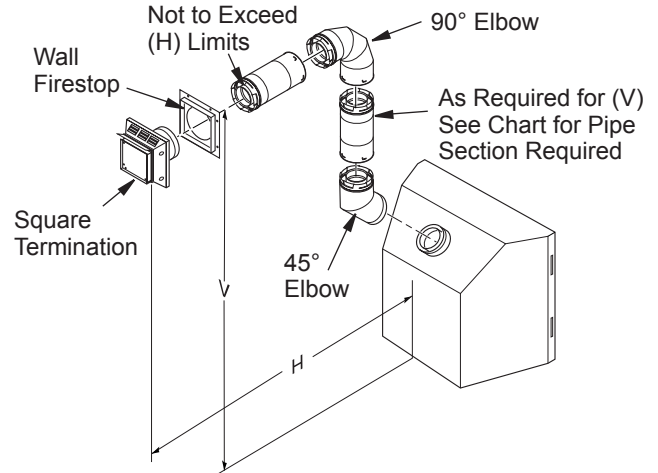

**Figure 14 - Horizontal Termination Configuration for Square and Round Terminations**
**IMPORTANT:** Horizontal square terminations require only inner portion of wall firestop. Horizontal installations using round termination require exterior portion of wall firestop (see Figure 14, page 10).
1. Set the fireplace in its desired location and determine the route your horizontal venting will take. Do not secure the fireplace until all venting has been installed. Some installations require sliding the fireplace in and out of position to make final venting connections. Figures 14 through 18 on pages 10 and 11 show different configurations for venting with horizontal termination that will help you decide which application best suits your installation. Check to see if wall studs or roof rafters are in the path of your desired venting route. If they are, you may want to adjust the location of the fireplace.
Figures 14 through 18 show different configurations and alternatives for venting with horizontal termination. Each figure includes a chart with critical minimum and maximum dimensions which **MUST** be met. **IMPORTANT:** If using a venting configuration of only horizontal venting with no vertical run, a 1/4" rise for every 12" of run toward the termination is required.